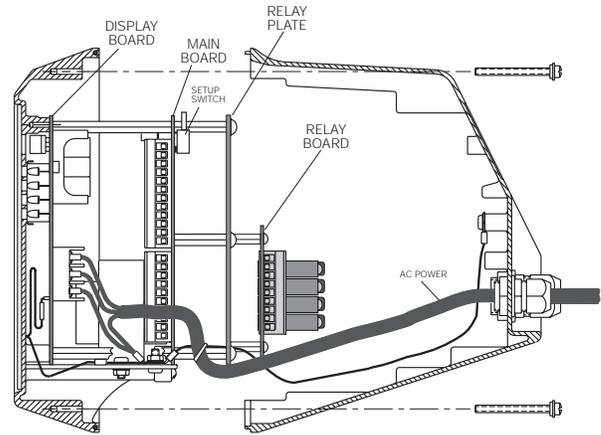

Figure 9-18. Installed 810 DT 4-Channel Relay Board
- On the desktop (DT) models, the relay rack is mounted on a pre-drilled plate which is installed behind the CPU board using the supplied standoffs (see Figure 9-18).